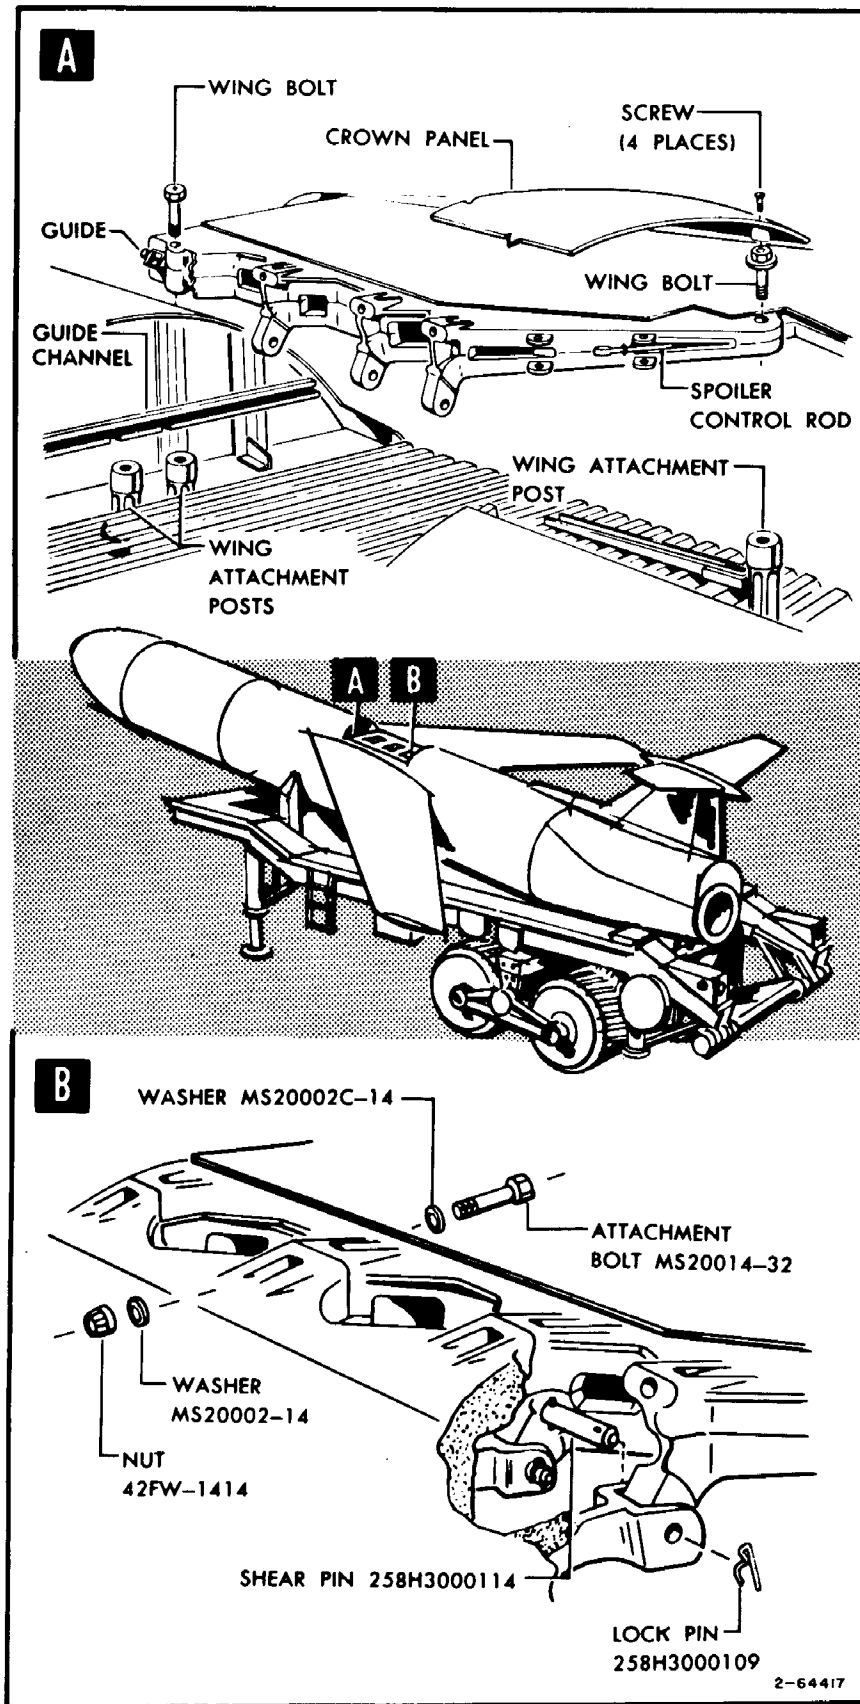

Figure 3-29. Splicing Folding Wings
m. Install wing bolts through the wing casting into wing attachment post; tighten bolts. (See figure 3-29.)
m. Carefully push Wing inboard, positioning wing guide into guide channel (figure 3-29).
- p. Install forward and aft wing splice bolts and secure with attaching hardware; washer on bolts with attaching hardware; washer on bolts with chamfer against bolt head and washer under nut. (See figure 3-29.)
- t. Install remaining wing splice bolts and secure with attaching hardware; washer on bolt with chamfer against bolt head and washer under nut. (See figure 3-29.)
- b. Connect plug P8606 (5) on spoiler to wing disconnect receptacle J8606.
- e. Replace crown panel (figure 3-29) and secure panel with four screws.